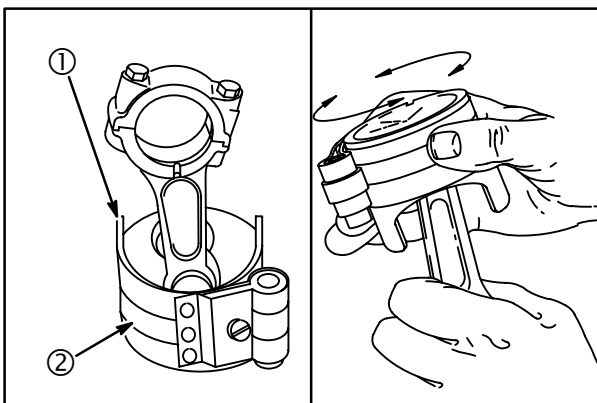

Fig. 2
1. Oil piston rings and piston skirt. Compress rings with Piston Ring Compressor #19070 (2), **Fig. 2**.
- a. Place piston and ring compressor upside down on bench with projections (1) on compressor facing up.